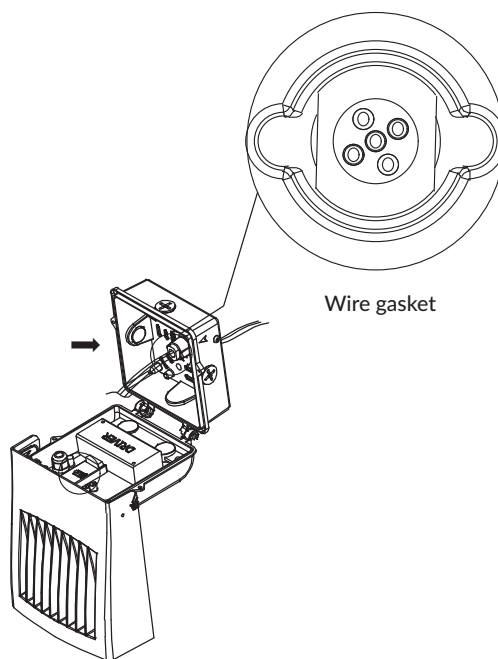

Figure 4
- Open the driver box by unscrewing the top part of the driver box. (Figure 4).
- Pull out the power supply wires (L black, N White), grounding wire (G Green), and dimming wires (purple and gray) (if needed), by breaking through the 5 holes wire gasket. (Figure 4)